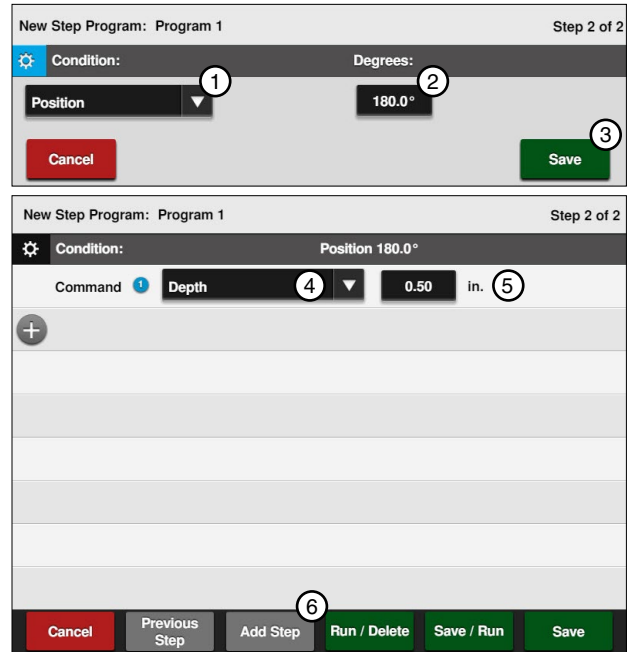

Figure 123-1 1. Position Condition 2. Degrees 3. Save 4. Depth Command 5. Inches 6. Add Step
11. Program the position condition for this step. Refer to Figure 123-1.